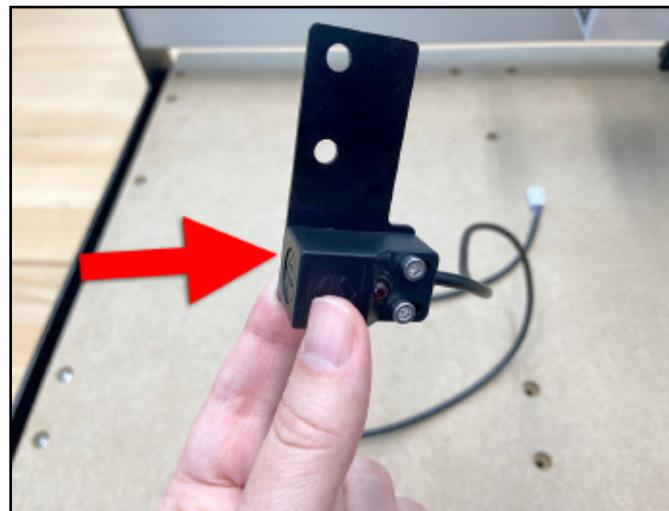

Figure 6-5
2. Align the switch and plate, with the switch facing left and the plate's two PEM nuts in the **BOTTOM-RIGHT** corner. Flush the face of the switch with the edge of the plate. See **Figure 6-5**.
3. Use the 2.5mm hex key and two (2) M3x18mm socket head cap screws to attach the switch to the plate. Make sure the front edge of the proximity switch and plate stay flush. See **Figure 6-5**.